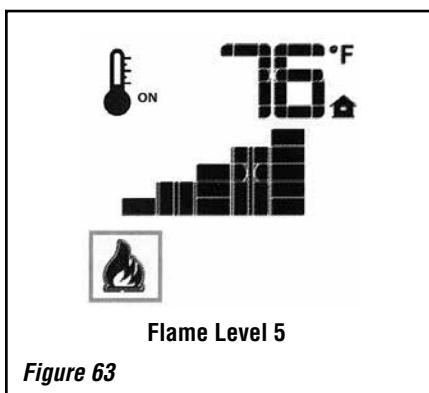

Figure 63
The system has six (6) flame levels. See Figure 63 \(next page\) for an example. With the system on, and the flame level at the maximum in the appliance, pressing the DOWN Arrow Key once will reduce the flame height by one step until the flame is turned off.